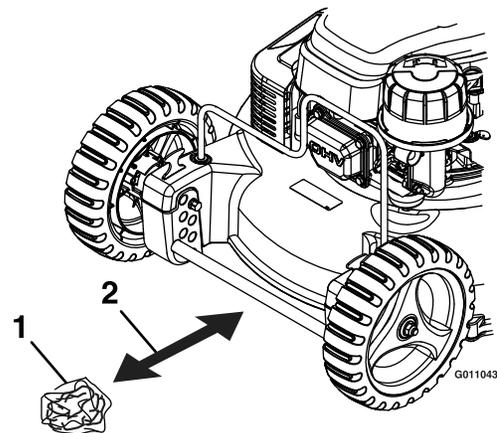

Figure 14
4. Take a half sheet of newspaper and crumple it into ball small enough to go under the deck (about 3 inches or 7.6 cm in diameter) as shown in Figure 14.